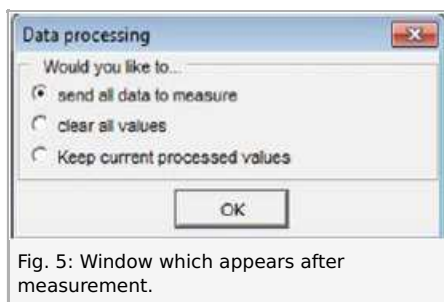

Fig. 5: Window which appears after measurement.
- After each measurement, send all data to "measure" (see Fig. 5) and save the data (File > Save measurement as).